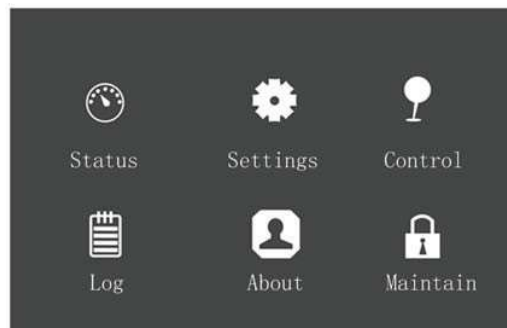

Figure 5-3 Main menu screen
- a) Access the main menu screen, press the  or  key to select 'Settings', and press the  key to access the interface shown in Figure 5-3.